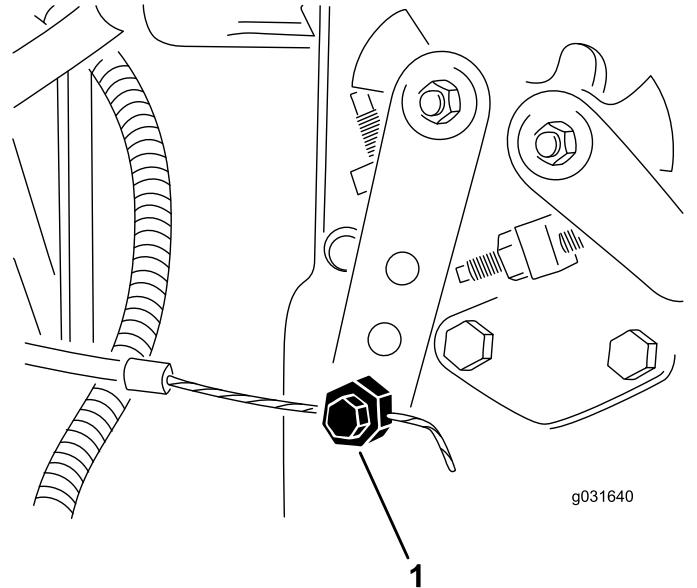

Figure 60
2. Loosen the throttle-cable connector on the injection-pump-lever arm (Figure 60).